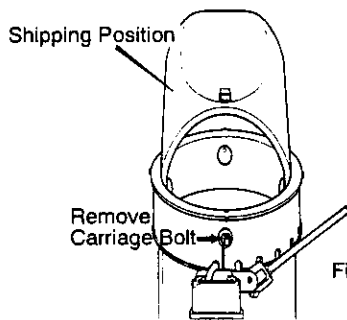

Figure 7
1. Remove back carriage bolt. See Figure 7.